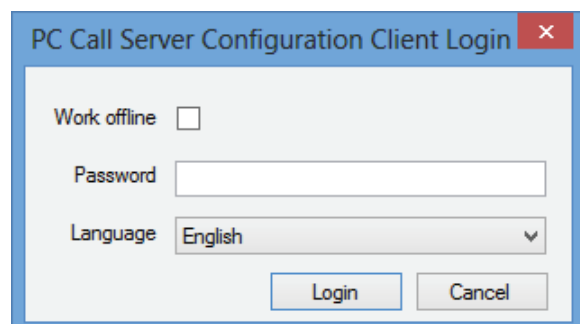

figure 61.1: PCCstConfig Login
- 2 Click *PC Call Server Configuration Client*. A screen similar to the one in figure 61.1 appears.